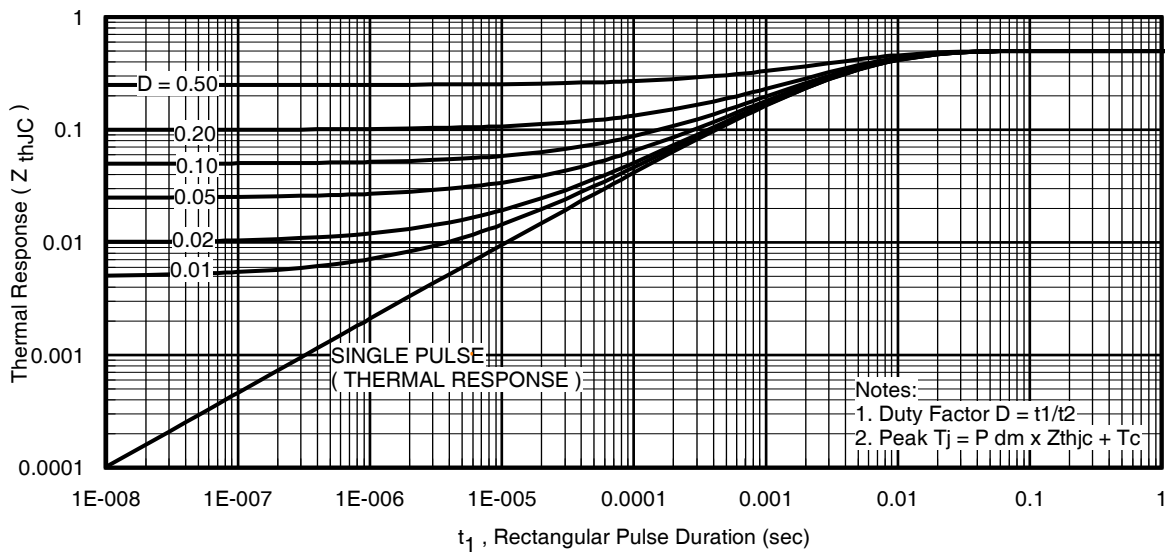

Fig 11. Maximum Effective Transient Thermal Impedance, Junction-to-Case
- ① Repetitive rating; pulse width limited by max. junction temperature. (See fig. 11).
- ② Limited by T_{Jmax} , starting $T_J = 25^\circ\text{C}$, $L=0.24\text{mH}, R_G = 25\Omega, I_{AS} = 75A, V_{GS} = 10V$. Part not recommended for use above this value.
- ③ $I_{SD} \leq 75A, di/dt \leq 220A/\mu s, V_{DD} \leq V_{(BR)DSS}, T_J \leq 175^\circ\text{C}$.
- ④ Pulse width $\leq 1.0\text{ms}$; duty cycle $\leq 2\%$.
- ⑤ $C_{oss\ eff.}$ is a fixed capacitance that gives the same charging time as C_{oss} while V_{DS} is rising from 0 to 80% V_{DSS} .
$Z_{thJC}(D, t_{av})$ = Transient thermal resistance, see figure 11)